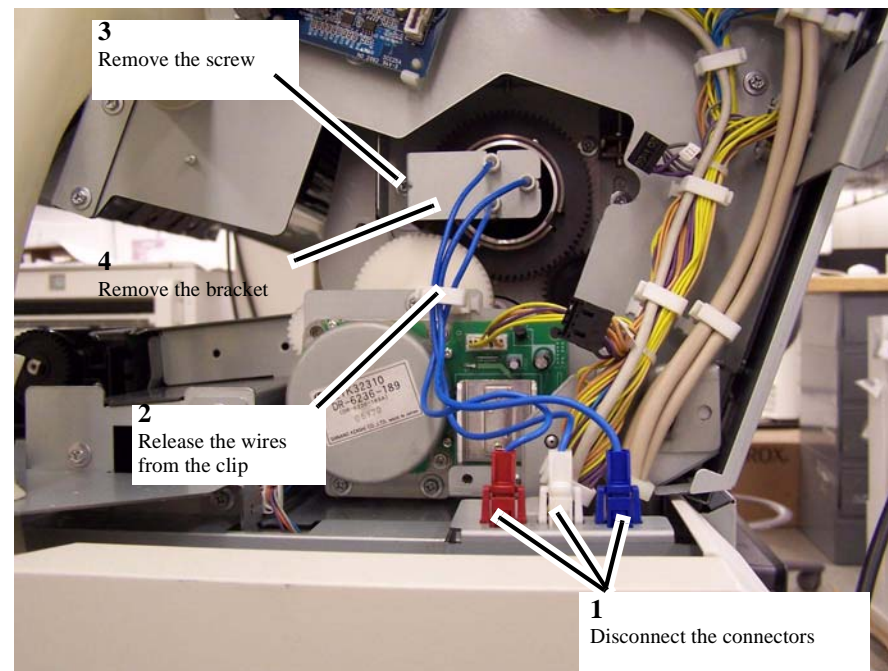

Figure 1 Component removal at right end of Heat Rods
5. Remove the components at the right end of the Heat Rods (Figure 1).